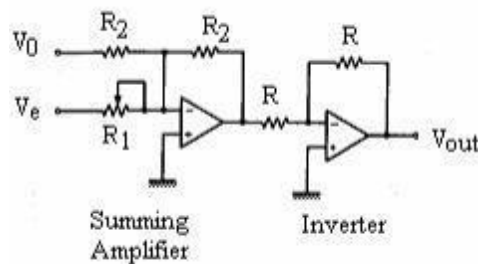

Fig.2.34. An op amp proportional mode controller
2.24 is a summing amplifier. Fig.2.34 shows such an electronic proportional controller.
To use the circuit of Fig.2.34 for proportional mode, a relationship must be established with the characteristics of the mode, defined already, in chapter 1. In Eq. 2.35, the error is expressed as the percent of measurement range, and the output is simply 0 % to 100%. Yet Fig. 2.34 deals with voltage on both the input and output.